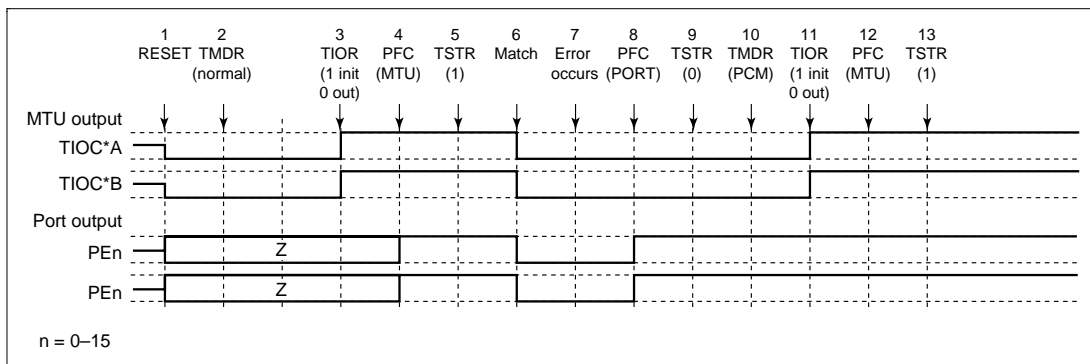

Figure 10.63 Error Occurrence in Normal Mode, Recovery in Phase Counting Mode
(4) Operation when Error Occurs during Normal Mode Operation, and Operation is Restarted in Phase Counting Mode: Figure 10.63 shows an explanatory diagram of the case where an error occurs in normal mode and operation is restarted in phase counting mode after re-setting.